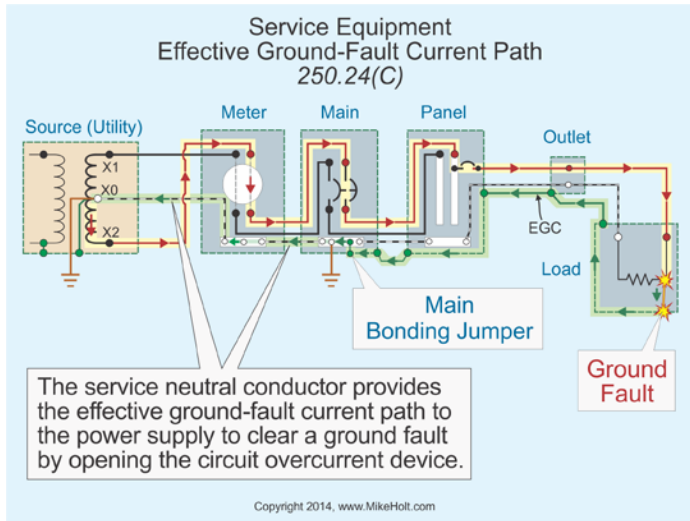

Figure 250-53
- The service neutral conductor provides the effective ground-fault current path to the power supply to ensure that dangerous voltage from a ground fault will be quickly removed by opening the overcurrent device [250.4(A)(3) and 250.4(A)(5)]. *Figure 250-53*